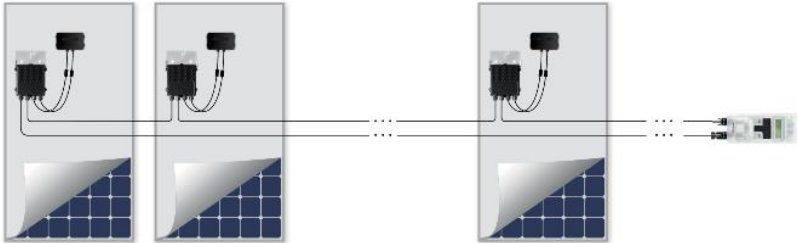

Figure 9: SolarEdge Key connection
- 2 Connect the Plus (+) connector of the string of optimizers to the Plus (+) input connector of the SolarEdge Key. Connect the Minus (-) output connector of the string of optimizers to the Minus (-) input connector of the SolarEdge Key (Figure 9).